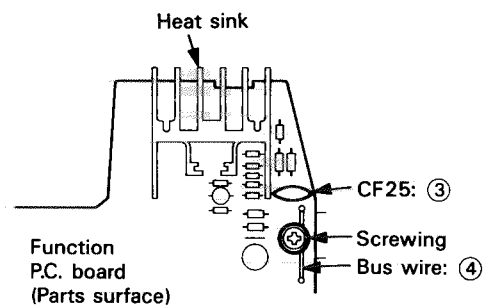

Fig. 4
- ⑤ The earth wire ass'y (Parts No. VMP0124-001) is back-soldered from the land on the pattern cut side of CF26 as indicated in Fig. 4 below.